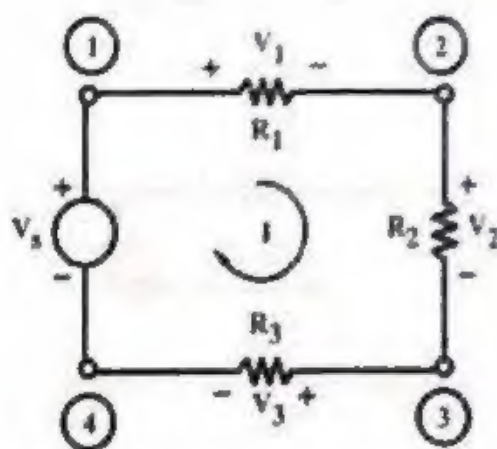

Fig. 1.11 Kirchhoff's Voltage Law
Fig. 1.11 having nodes ①, ②, ③ and ④. Let the unit charge placed at node ① in the network. This charge is moved from node ① to ②, ② to ③, ③ to ④ and finally, it moves from ④ to ①. The decrease in energy in moving from ① to ② is identified as voltage drop whereas the increase in energy in going from ④ to ① is identified as voltage rise. If we assign a negative sign for a voltage rise and a positive sign for a voltage drop.